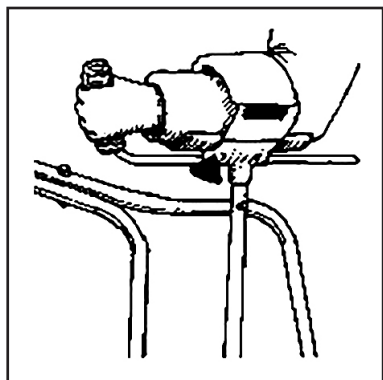

FIG. 3
5. Once again, rest your forearm on the padded trough and hold the grip. Using your free hand secure the padded straps, via the Velcro, around your arm, ensuring your arm can slip in & out comfortably (Fig 3).